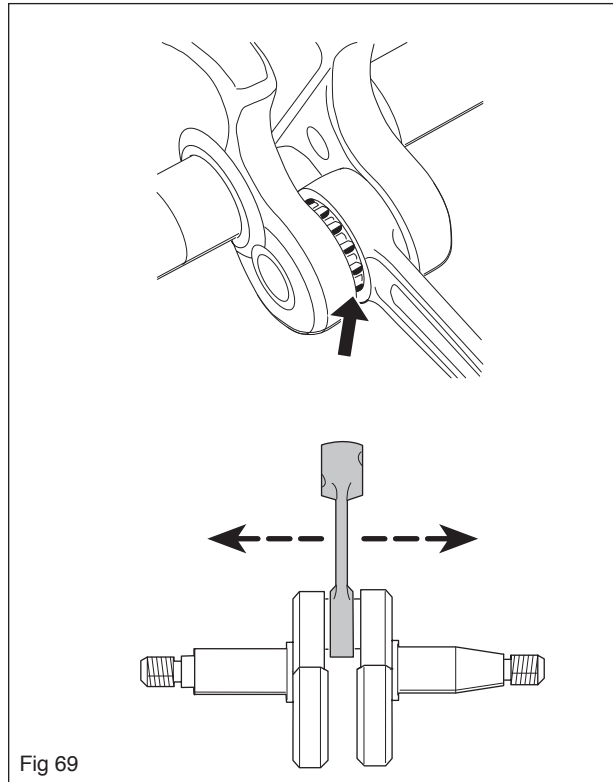

Fig 69
1. That the big-end bearing does not have any radial play. Axial play is permitted. See figures 69.